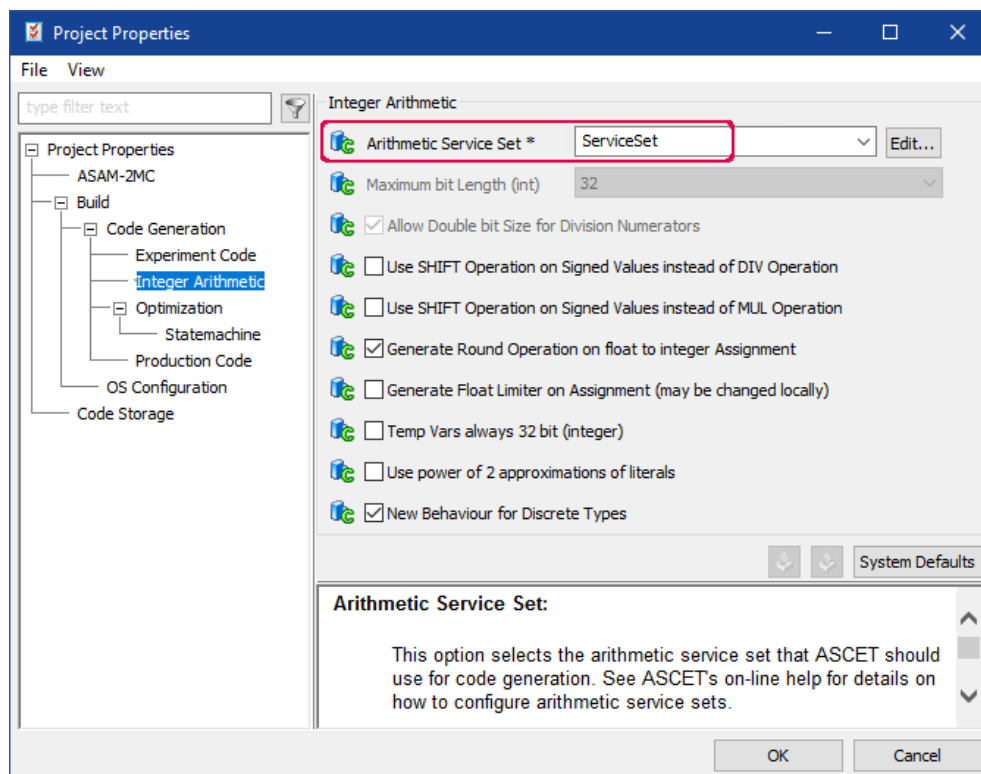

Figure 7.4: Selecting the service set in ASCET
2. In the "Arithmetic Service Set" combo box (see also Figure 7.4 on the next page), select the service set you want to use.